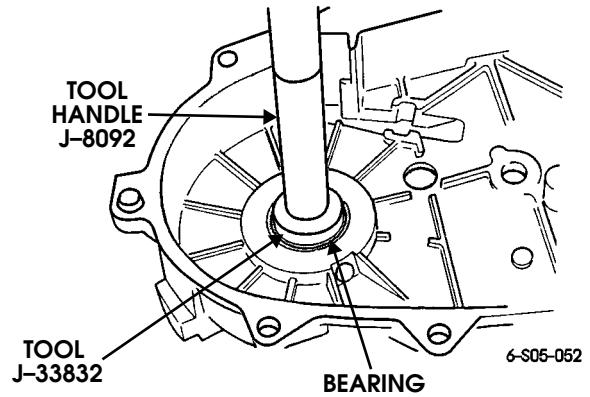

Figure 5-124: Front Output Shaft Rear Bearing Installation
- c. Install new bearing with tool handle J-8092 and installer J-33832 (Figure 5-124). The rear bearing bore is chamfered at the top. Install the bearing so it is flush with the chamfer lower edge.